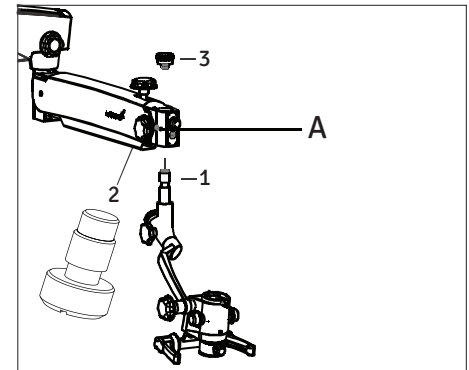

Fig.44
**4 Retrieve the inclined coupling assembly(Z AXIS or Simple as ordered) from the packing and follow as below refering Fig.44.**
- Install the coupling to the suspension arm by sliding the guiding shaft (1) into the suspension arm.
- Lock the inclined coupling with the threaded plug (3).
**Make sure that safety screw must tight in place at position (2) to avoid sudden falling of the coupling. Safety screw tagged within the arm. Safety screw always tied with the suspension arm locking knob A as per fig.44.**